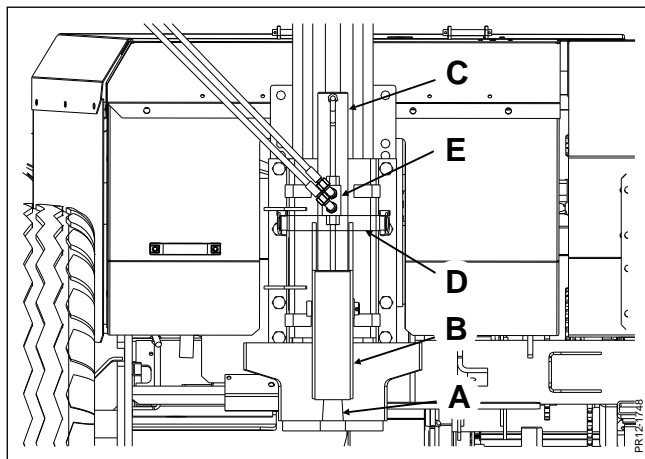

Fig. 6-13
**Fig. 6-13** The trailer is unhitched in the following way: Position locking pin **D** so that it locks the hitch eye **A**; remove the locking pin **D** and place it in the holder of the hydraulic hitch **B**. Then lower hitch eye **A** by activating cylinder **C**. The trailer will be released once hitch eye **A** has been lowered. Remember also to remove any connectors for lights and hoses for tipping and braking where fitted.